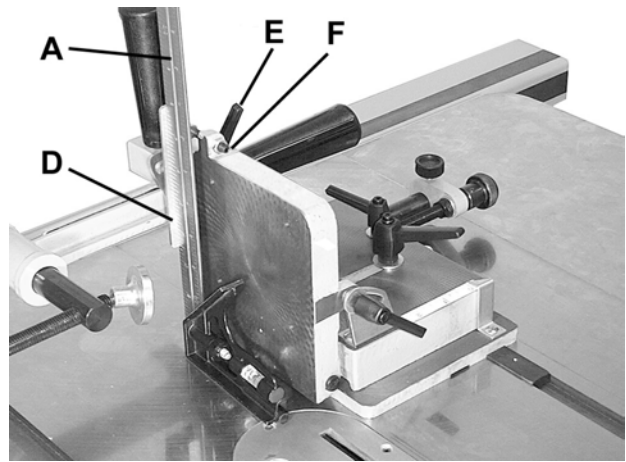

Figure 3
4. Using a square (A, Fig. 3), check to see if the position of the backstop (D) is 90 degrees to the saw table. If not, loosen the lock handle (E), adjust the backstop to the 90-degree position, and tighten the lock handle.
5. When the backstop is 90 degrees to the table, adjust the setscrew (F) until it touches the backstop. Tighten the jam nut. Setscrew (F) acts as a positive stop and allows you to quickly position the backstop back to the 90-degree position after it has been tilted.